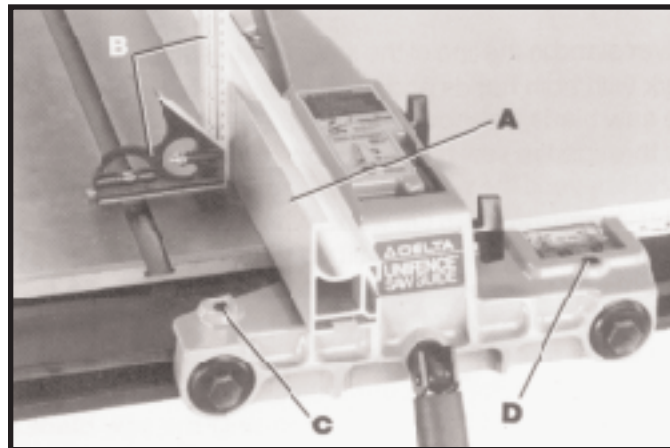

Fig. 60
The fence must be adjusted so that the face of fence (A) Fig. 60, is 90 degrees to the table. To check if the fence is 90 degrees to the table, place a square (B) on the table with one end of the square against the fence, as shown. If an adjustment is necessary, tighten or loosen one of two screws (C) or (D) using the wrench supplied, until the fence is 90 degrees to the table. **IMPORTANT: VERY LITTLE MOVEMENT OF THESE SCREWS (C) AND (D) IS NECESSARY TO MAKE THIS ADJUSTMENT.**